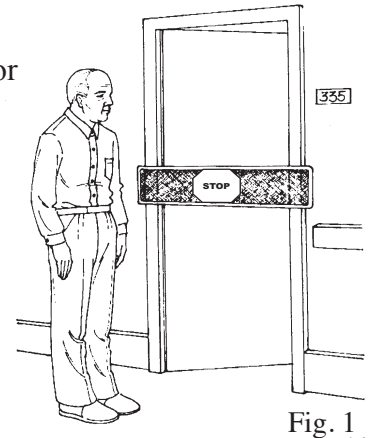
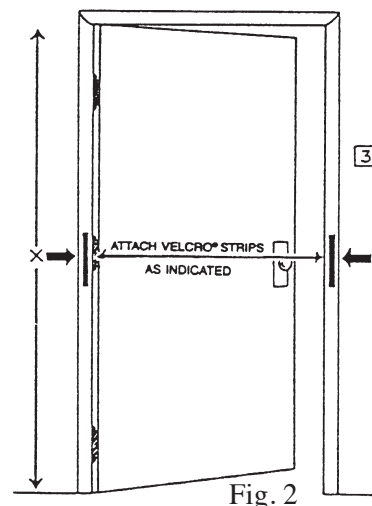

Fig. 1
Fig. 2
Peel the backing off the hook and loop pressure-sensitive strips and attach them to the left and right sides of the door frame (909220, 909221). The stop sign only (909226) should be placed on the center of the door. These strips and stop sign should be positioned at mid height on the door frame (Fig. 1). **IMPORTANT:** Attach the pressure sensitive strips to the corridor side of the door frame (Fig. 2).
The magnet version only works on steel door frames. Simply affix the magnet to the door frame at mid height as shown in (Fig. 1). Note this version will not work on wooden or aluminium door frames.
1. Install 9-volt battery. Battery compartment is on side of alarm unit. The Stop Strip alarm system includes hook and loop strips. Peel the backing off one of the longer hook and loop strips and attach it to the hinged side of the door frame. Attach the other smaller strip to the door knob side of the door frame. (see Fig. 2).
3. Attach the hook and loop material on the stop strip to the strip on the hinged side of the door. Bring stop strip across the door and attach the magnet sewn into the strip on the alarm unit (see Fig. 1).